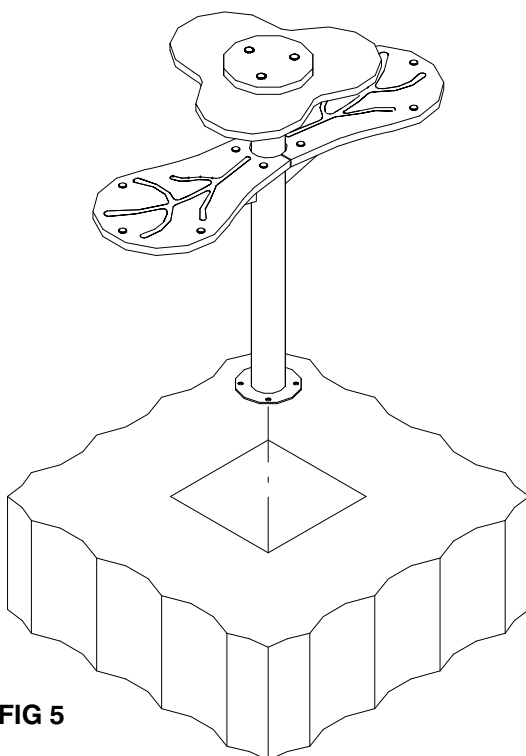

FIG 5
- vii) Position the table into the excavation, packing up to height, level and plumb.(Fig 5)